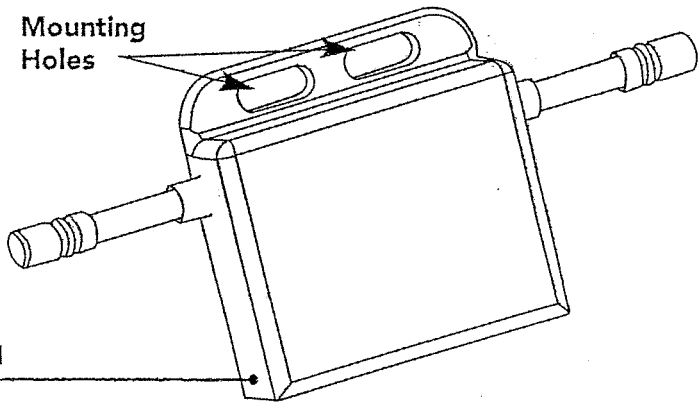
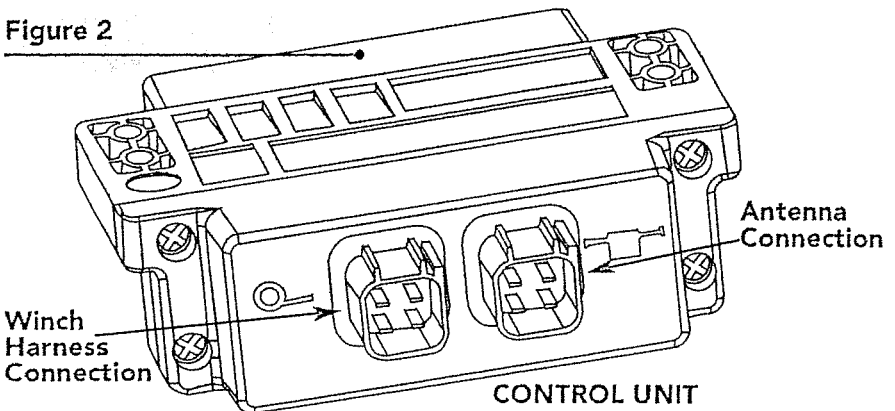

Figure 1
Figure 2
Locate a place to mount the Wireless Control unit. Under dash, console, or inside wall of a box trailer would be typical locations. The unit can be mounted in any orientation, inside or outside the vehicle or trailer. The unit is mounted with 4 self-tapping screws (provided in hardware kit) or with (4) #8 bolts and nuts (Not provided). See Figures 2 & 3
Locate a place to mount the antenna. Mount the antenna a minimum of 2 feet away from the winch motor and high current motor leads to avoid motor noise interference. The antenna mounts with cable ties or screws. See Figure 1. Connect the antenna wire connector to back of the Wireless Control Unit. See Figure 2.
Plug in winch wiring cable to back of control unit connector. See Figure 2. Connect the winch end plug to the winch socket by aligning the white mark on the plug housing with the white mark on the winch socket.